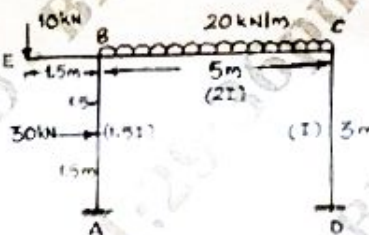

Fig.Q2
- 2 Analyze the portal frame shown in Fig.Q2 by slope deflection method. Draw BMD and elastic curve.